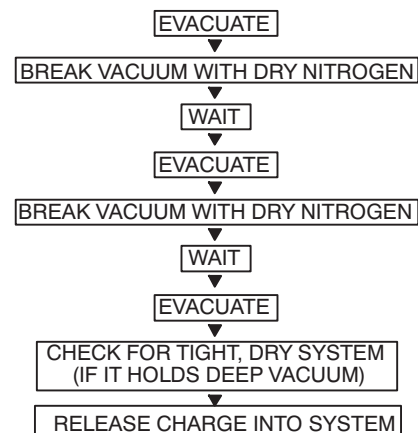

Fig. 13 — Triple Evacuation Method
The triple evacuation method should be used. Refer to Fig. 13 and proceed as follows:
5. Repeat this procedure as indicated in Fig. 13. System will then be free of any contaminants and water vapor.